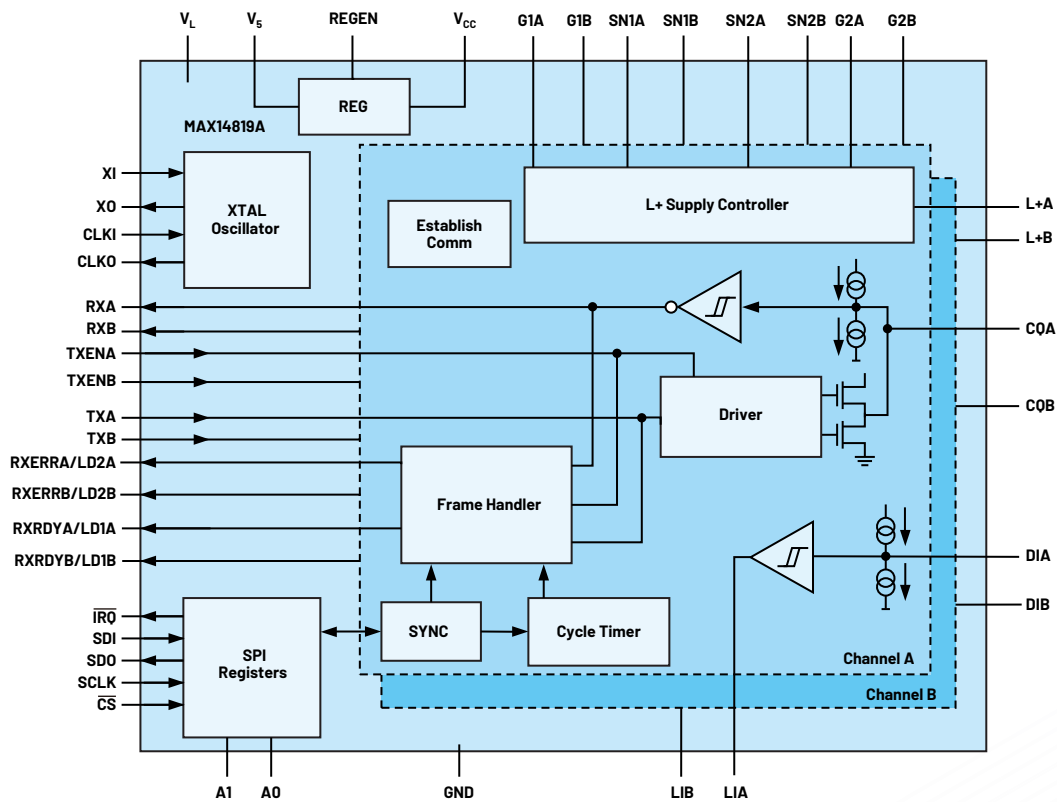

Figure 57. A MAX14819A dual IO-Link master transceiver.
The MAX14819A low-power, dual-channel, IO-Link master transceiver with sensor/actuator power-supply controllers (Figure 57) is fully compliant with the latest IO-Link and binary input standards and test specifications, IEC 61131-2, IEC 61131-9 SDCI, and IO-Link 1.1.3. This master transceiver also includes two auxiliary Type 1/Type 3 digital input (DI) channels. The MAX14819A is configurable to operate either with external UARTs or using the integrated framers on the IC. To ease selection of a microcontroller, the master transceiver features frame handlers with UARTs and FIFOs. These are designed to simplify time-critical control of all IO-Link M-sequence frame types. The MAX14819A also features autonomous cycle timers, reducing the need for accurate controller timing. Integrated communication sequencers also simplify wake-up management.